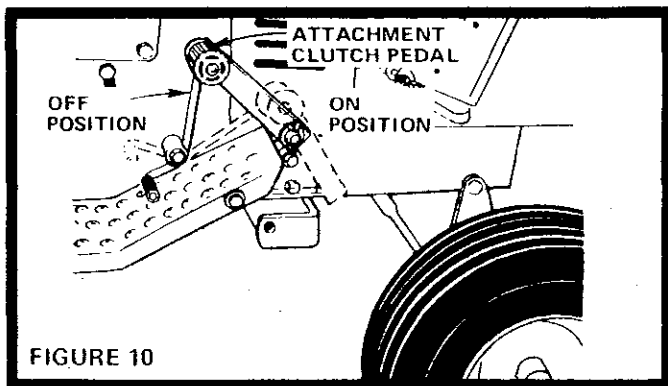

FIGURE 10
THIS TRACTOR IS EQUIPPED WITH SAFETY SWITCHES TO PREVENT STARTING OF THE TRACTOR ENGINE WHILE THE ATTACHMENT CLUTCH PEDAL IS IN THE "ON" POSITION (FIG. 10) AND THE CLUTCH BRAKE PEDAL IS IN DRIVE POSITION (FIG. 12).
2. Place Attachment Clutch Pedal in "OFF" position (Fig. 10).